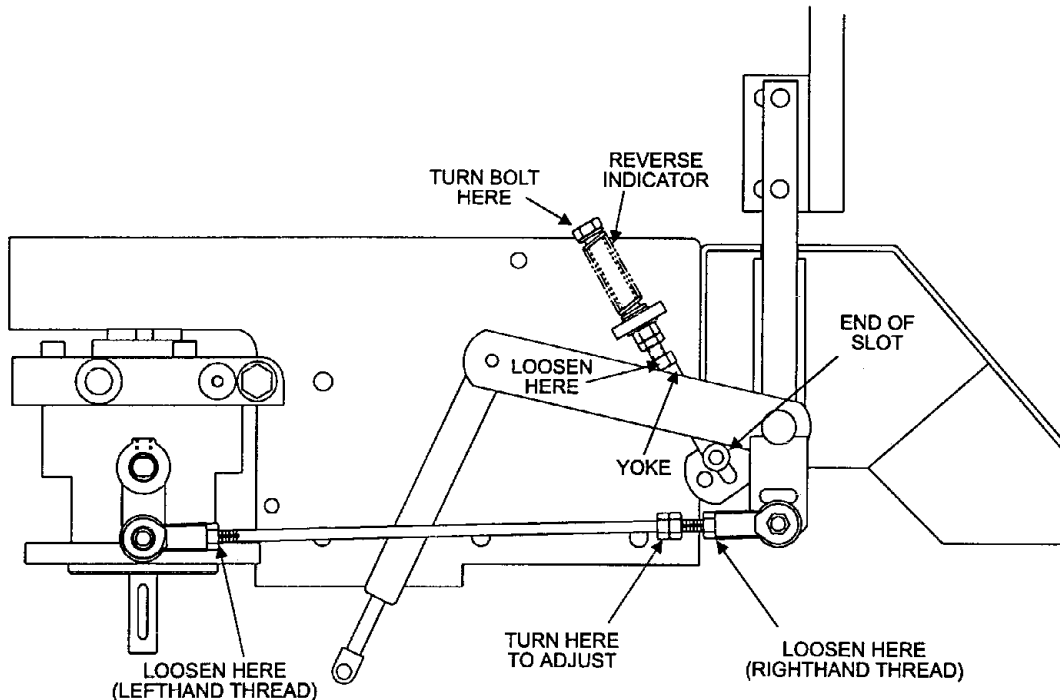

FIG. 9
- c) Begin with either the left or right motion control lever. Move lever to the neutral position and pull lever back until the clevis pin (on arm below pivot shaft) contacts the end of the slot (just beginning to put pressure on spring), See Fig 9.
- Loosen locknuts from the ball joints on the two rods which connect the motion control assemblies to the pump control arms (See Fig 9).
- g) Begin on either the left or right side of unit and bring the motion control lever in to the neutral position. Adjust pump control rod length by rotating the double nuts on the rod in the appropriate direction until the wheels slightly creep in reverse. (See Fig 9). Move the motion control lever to the forward position and bring back to neutral, the wheel must stop turning or slightly creep in reverse. Do the same in reverse and make adjustments if needed.